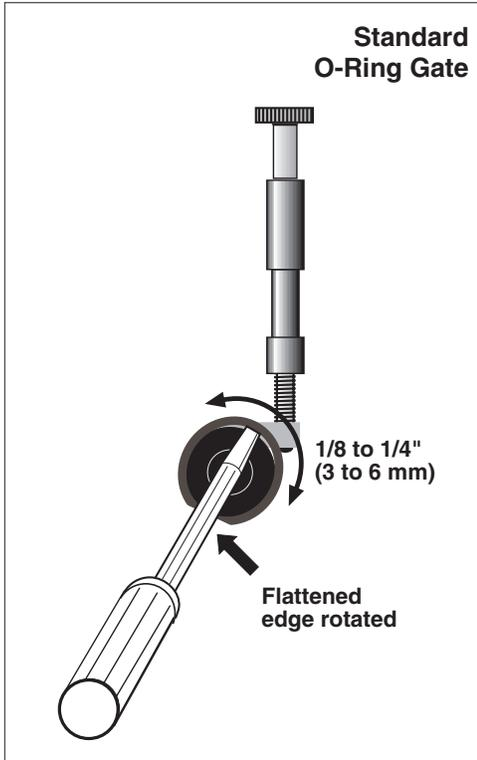

Figure 40. Adjusting Worn O-Rings
4. Insert a screwdriver in slot on top of gate assembly and rotate screwdriver clockwise or counter-clockwise 360° so as to move worn area of O-ring about 1/8 to 1/4 in. (3 to 6 mm). See Figure 40.